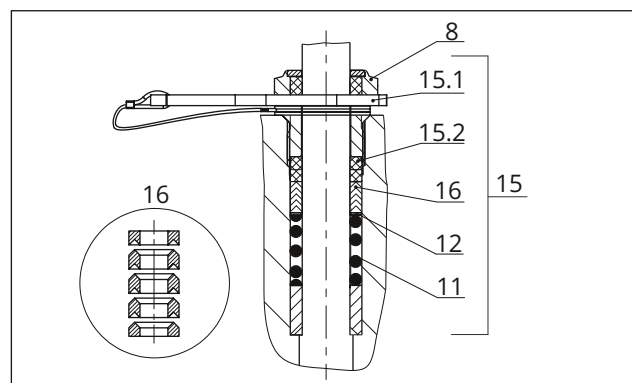

Fig. 16: Structure of ADSEAL packing
4. Insert the red spacer ring (15.1) between the threaded bushing (8) and retaining ring (see Fig. 16).